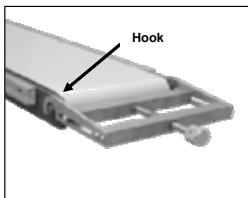

Fig. 4
2. Install the belt tensioning tool with hook connector over the belt tension lock screw washers. (See arrows, figs. 4 & 5)
3. Turn the knurled adjustment knob(s) on the tensioning tool clockwise until the tensioning cross brace is against the conveyor siderail ends. On the 2-knob tensioning tool, alternately turn the knobs on either side in $\frac{1}{2}$ -turn increments to maintain equal distance between fixed and tensioning cross-braces. (figs. 4 & 5)